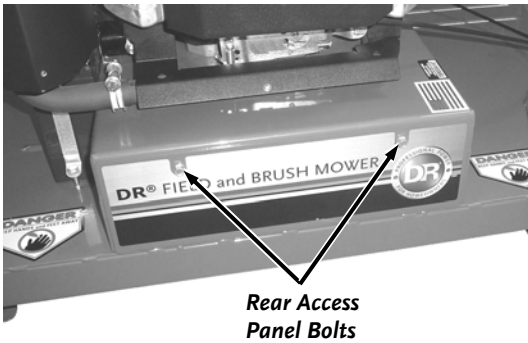

Figure 32
10. Using a 7/16" Wrench or Socket, remove the two Bolts and Lock Washers that retain the Rear Access Panel on the Mower and remove the Panel (**Figure 32**). This will open access to the Drive Pulley for Belt removal and installation.